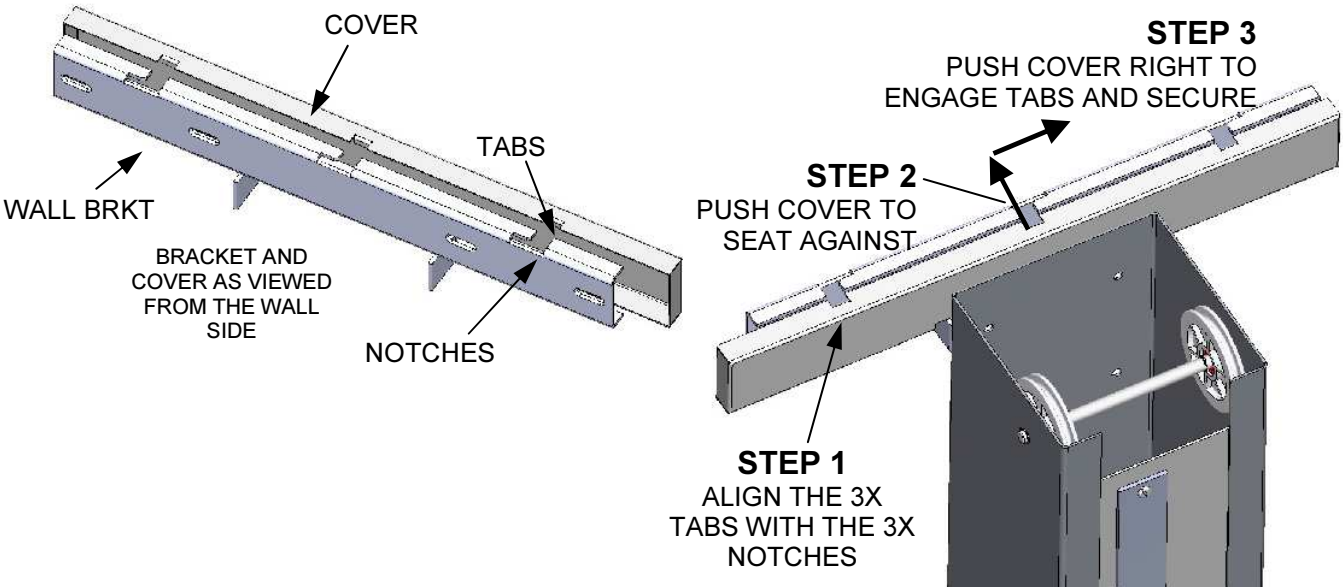

Figure 2: Installing the Wall Bracket Cover
11. Install the wall bracket cover (see Figure 2, Pg 8)